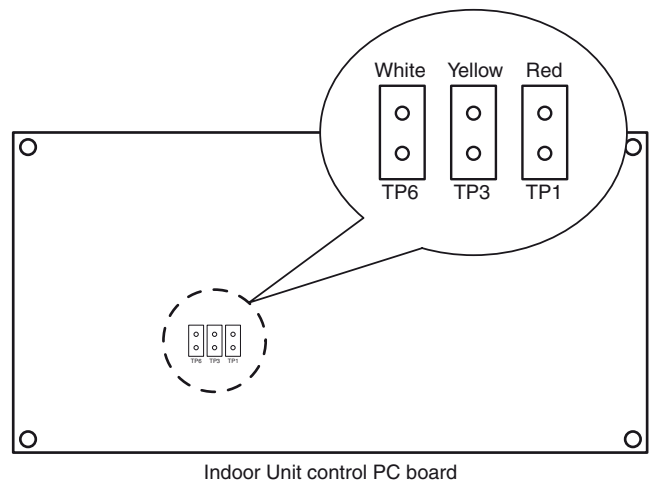

Fig.3-17
2. Open the lid of electrical equipment box and check where the short-circuit pin on the indoor unit control PC board is located (Fig. 3-17)